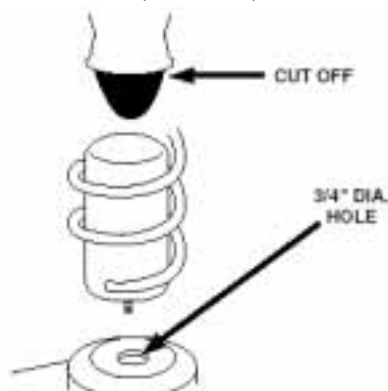

Figure 3
2. Center punch and drill a 3/4" diameter hole in the lower spring seat. Remove all burrs and sharp edges (Figure 3).
3. Cut off exposed portion of rubber jounce bumper within 1/2" of metal cup (Figure 3).
Stability translates into safety and should be the priority, meaning the driver may need to sacrifice a perfectly level and comfortable ride. Stability issues include roll control, bounce, dive during braking and sponginess (fig. 3). Tuning out these problems usually requires an increase in pressure.